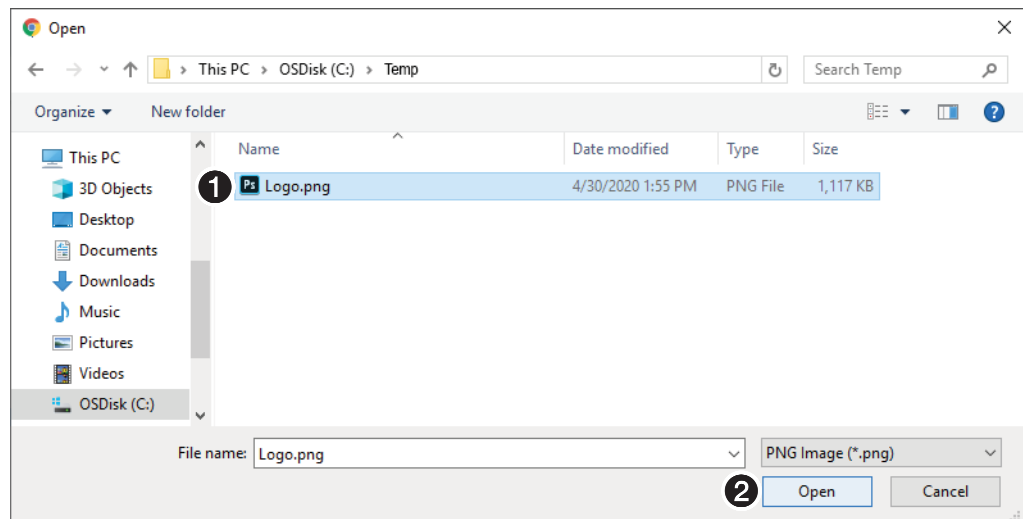

Figure 24. Open Dialog Box
An Open dialog box opens (see figure 24).
3. Navigate to the folder where the image file is saved (see figure 24, ①). Select the file.
4. Click **Open** (②).